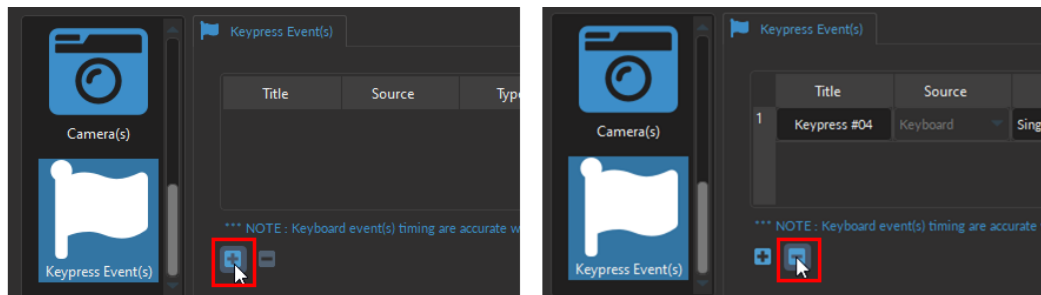

Figure 13.28: Adding and Removing Keypress Events
To add a new **KeyPress Event**, select the + sign at the bottom of the window (Fig. 13.28, left). To remove a Keypress, use - button (Fig. 13.28, right).
- **NOTE:** Selecting the + button (without clicking the *Add* button or the *Close* button of the *Channel Configuration* window) will **automatically** add the Keypress Event channel at the **bottom** of the Acquisition View window, below any pre-existing channels (Fig. 13.28).